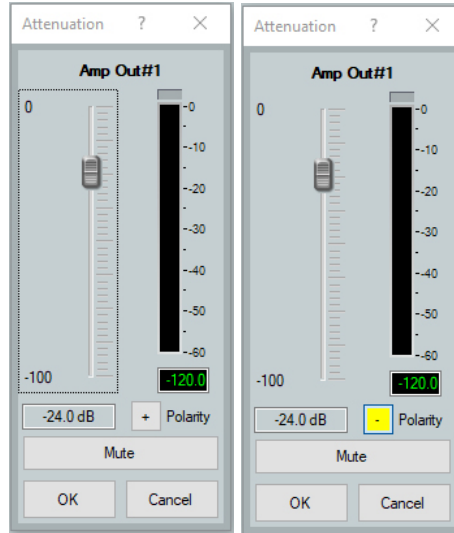

Figure 22. Attenuation Blocks
- iii. Open the attenuator block of the even channel and click the polarity box to invert the signal (see **figure 22** on the next page). The sign on the box should change from '+' to '-' and its color should change to yellow.
- Set the attenuator of the attenuation blocks (via the created group) to -24 dB or lower to prevent an unexpectedly loud signal from getting to the speaker when you first test the system (see figure 22).